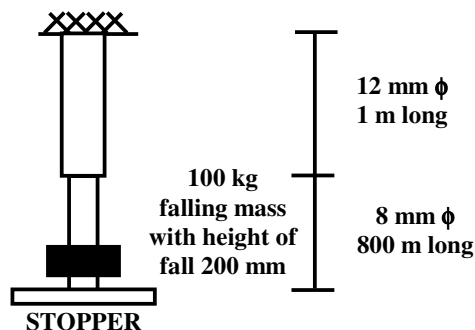

Figure-4 Q-5 (b) OR
- (b) For the steel rod as shown in figure-4, find the stress in each portion. **07**